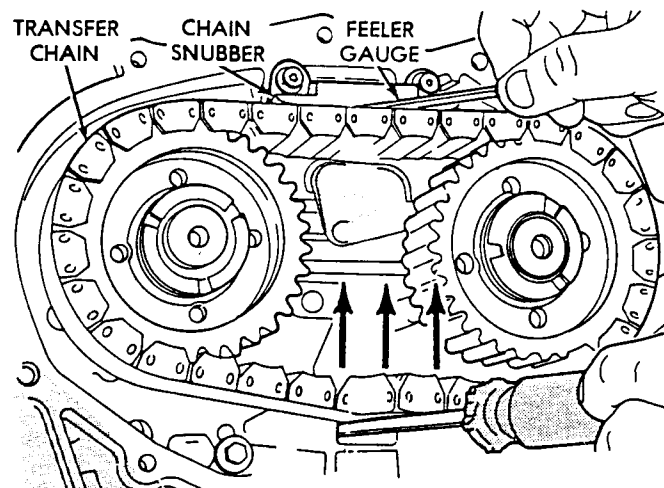

Fig. 6 Chain to Snubber Gap
(1) Insert screwdriver into the 18 mm hole below the chain and pry up on chain to remove slack in chain.
(2) Using a feeler gauge, measure the gap between the snubber face and the top of the chain (Fig. 6).